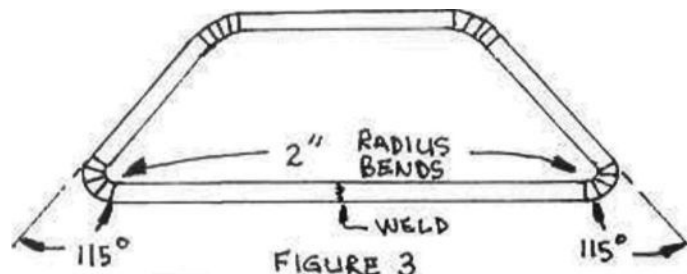

FIGURE 3
3. Now you have all four bends completed, weld each side member together as shown. Your main side members are now complete. (Figure 3 below)